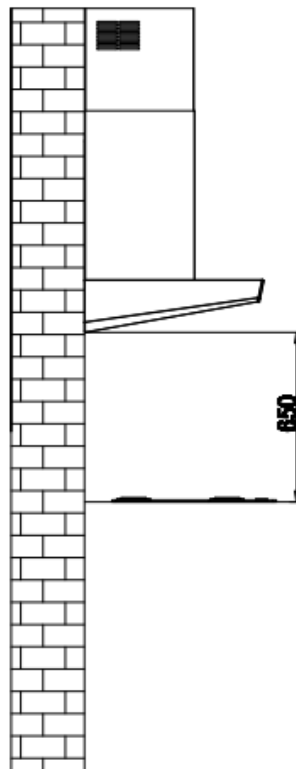

Fig. 5
- The extractor hood can be installed over any gas and electric cooktop. Minimum installation height from the bench top to the bottom of the hood is 650mm . Fig. 5